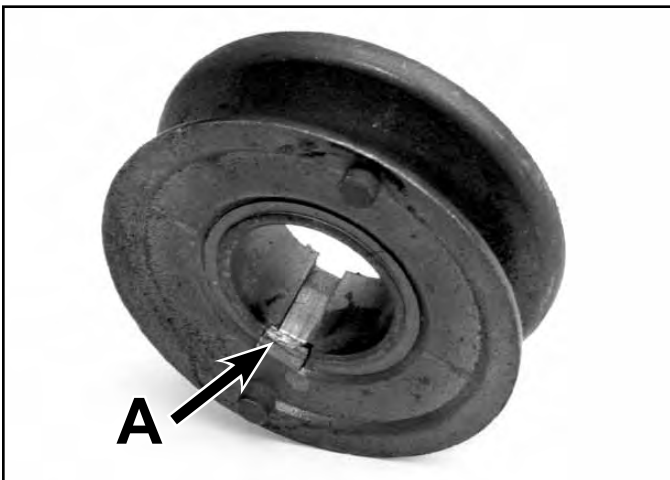

Fig 209
**Note:** If the crankshaft nut is tightened with these bumps misaligned, the boss at the bottom of the keyway on the self-propel pulley will break and the self-propel pulley will be free to slide up and down on the crankshaft (Fig. 209). This can result in noisy operation, premature belt wear, and belt jumping.